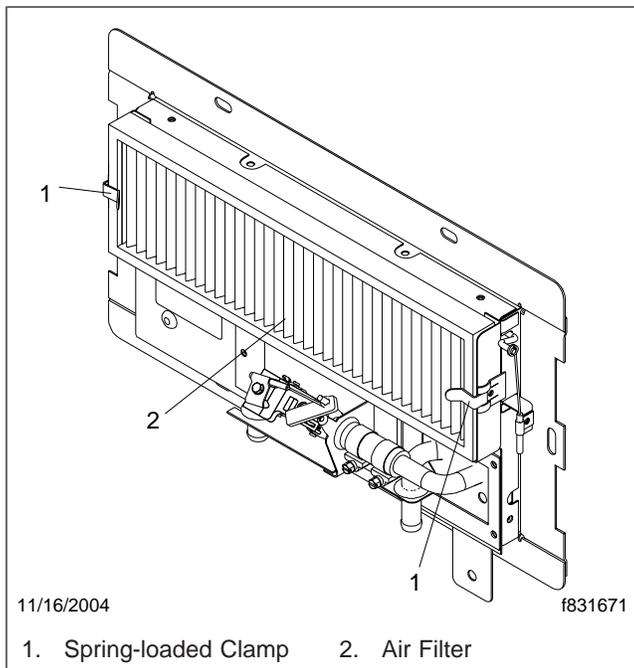

Fig. 1, Air Filter Replacement
3. Open the two spring-loaded clamps that secure the air filter to the HVAC assembly and remove the air filter. See **Fig. 1**.